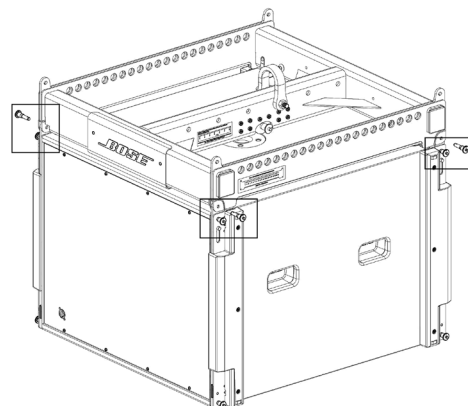

Fig. 4. Insert pins to attach subwoofer to frame
10. Insert two front pins (one on each side), then insert two rear pins (one on each side) to secure subwoofer to frame. See Fig. 4.